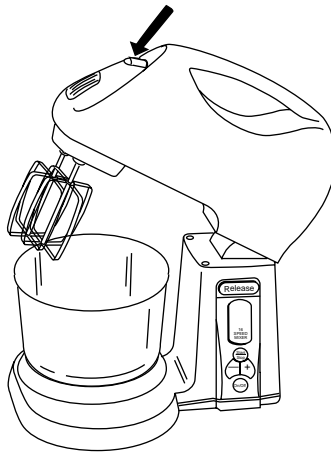

Figure 7
15. Press the Eject Button while grasping the Beaters, Cookie Dough Hooks, or Whisk to release them from the Mixer. See Figure 7.